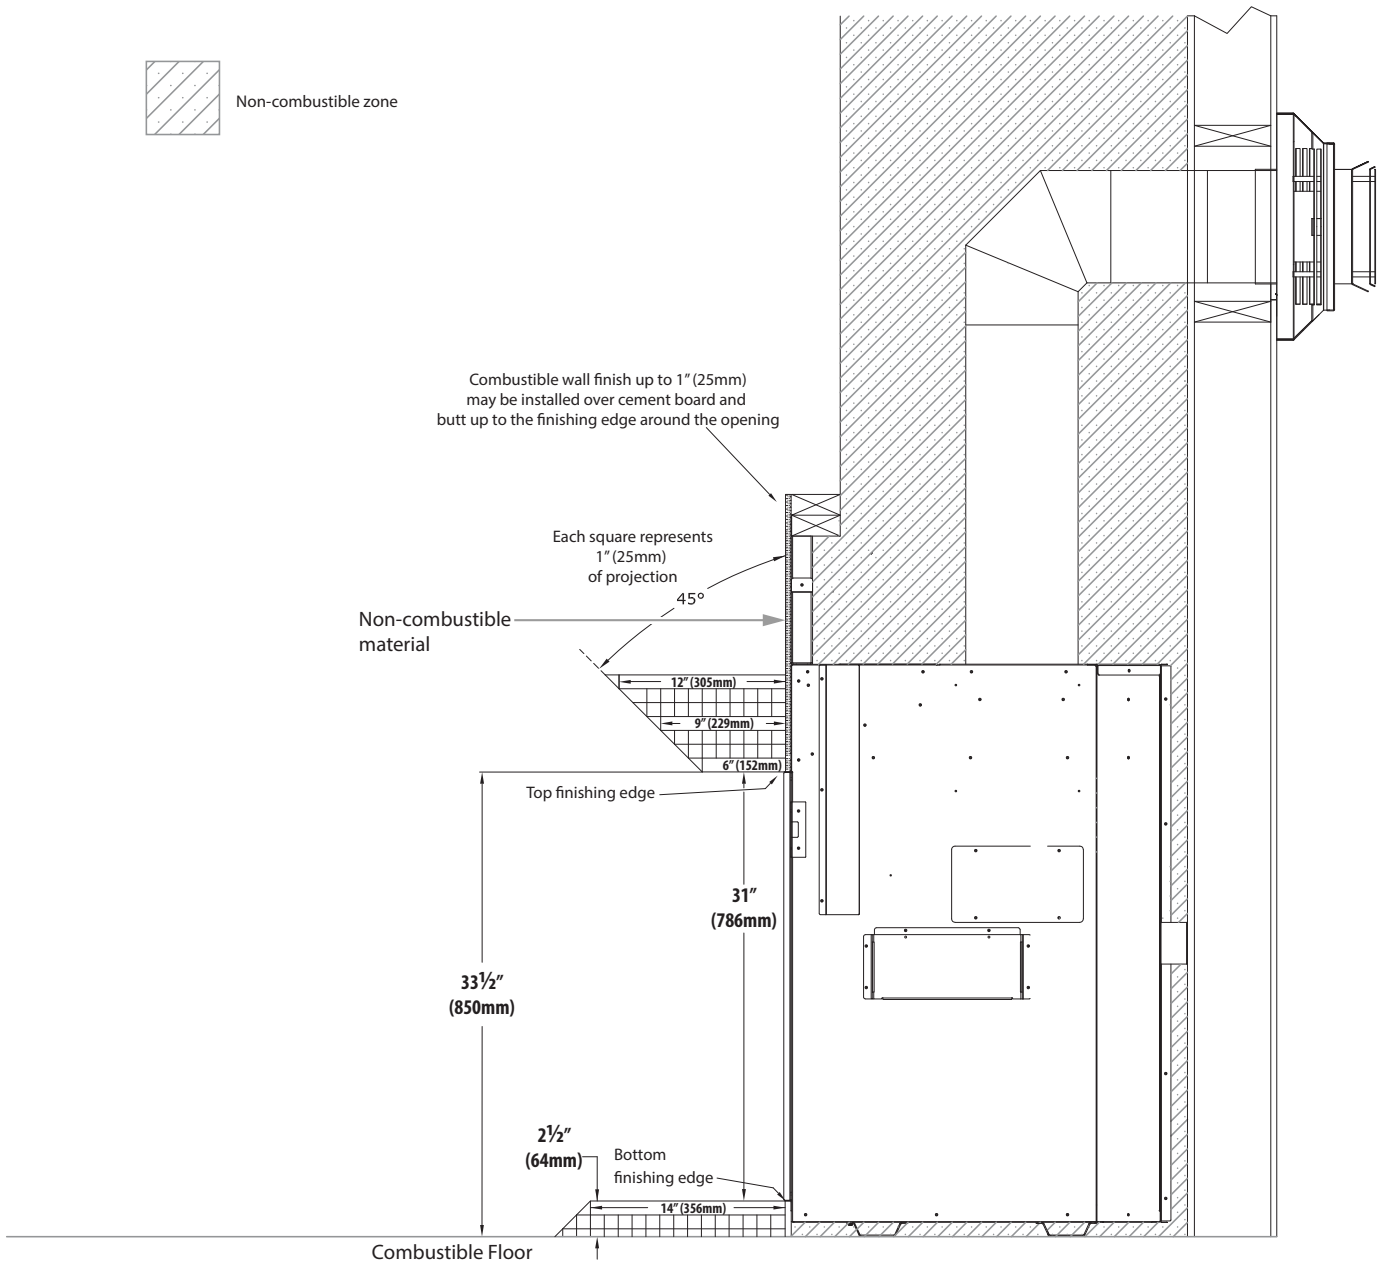

Figure 4.7, Vented Cavity & KZK Facing and Finishing Clearances
- **Combustible Hearth and Mantel Projections** - See Figure 4.7 on page 37 for facing and finishing clearances.